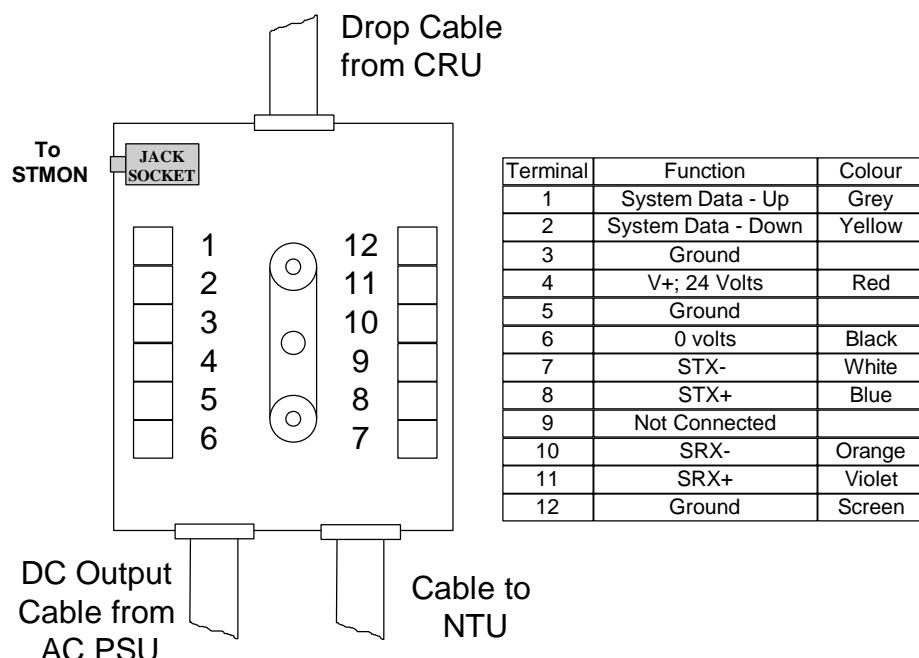

Figure 33. Junction Box Termination (Type 1 PSU)
1. At the Junction Box terminate the wires of the drop cable as shown in Figure 33.